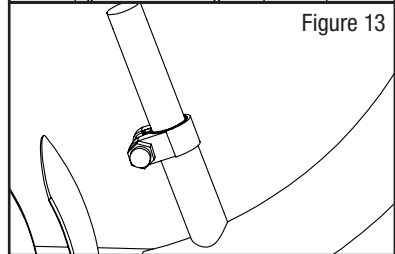

Figure 13
- Insert the seat post into the seat clamp on the frame to the minimum insertion mark (Figure 13).